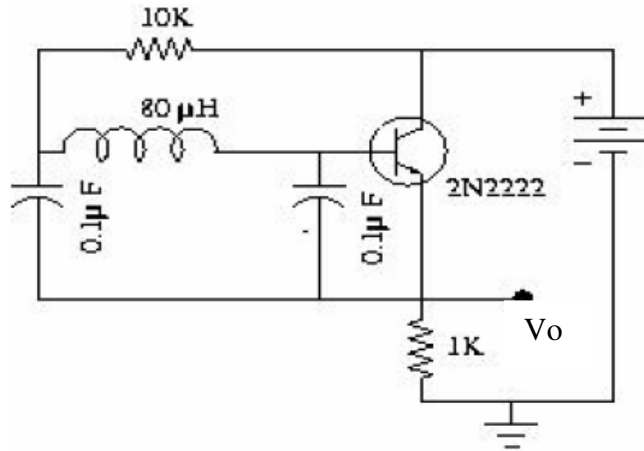

Fig: 6.1. Colpitt Oscillator circuit
1. Assemble the Colpitt oscillator circuit shown in Fig. 6.1. The frequency of oscillation is given by the expression, $f=1/(2\pi\sqrt{LC_T})$, where C_T is the total capacitance. Trace the Oscillator output. Repeat for different values of C_T ($0.01\mu\text{F}$, $0.02\mu\text{F}$ and $0.1\mu\text{F}$). Measure the frequency of the oscillator using a CRO. Compare the experimental frequencies with the theoretical values. Compile the results and enclose the traced waveform.